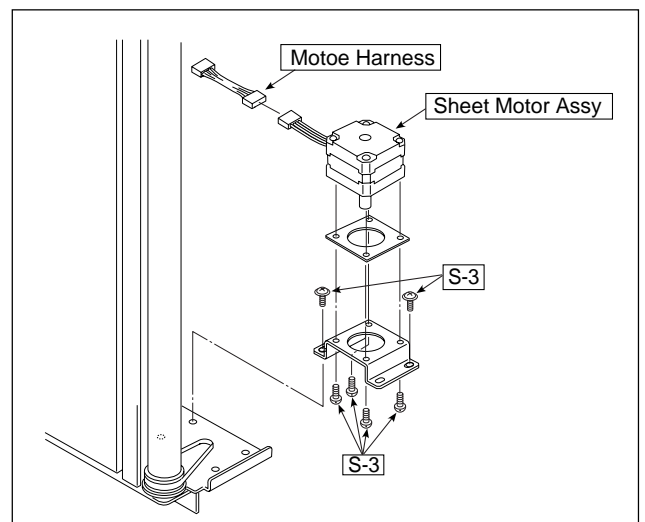

Fig. 12
8) Remove the Sheet Motor Assy. (See Fig. 12.)
1. Remove the "S-3" screws shown in Fig. 12.